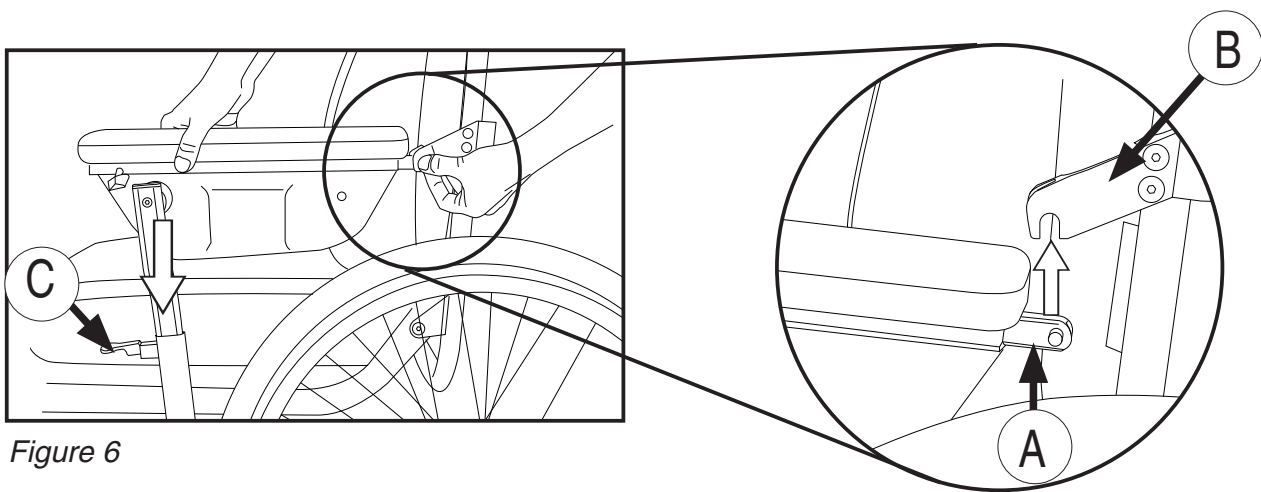

Figure 6
- Fit the armrest as shown in Figure 6. If the locking pin (6A) does not lock properly, move the back armrest fixing (6B) inwards or outwards until the locking pin goes into the locked position.